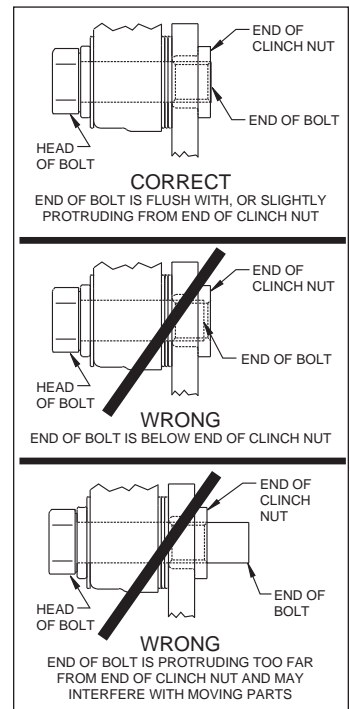

Figure 3. Clinch Nut Engagement Diagram
**Assembly Instructions** (numbers in parenthesis refer to the parts list and Figure 1 on the preceding pages): **CAUTION:** All mounting bolts must fully engage clinch nuts. Be sure to check that all bolts are either flush or protruding through flanged side of clinch nut after shimming, Figure 3.
- Pack the small outer bearing cone (17) with high temperature disc brake bearing grease and install into hub (10). Slide the hub/rotor assembly onto the spindle. Secure using spindle washer (18) and spindle nut, Photo 6. Adjust bearings per OEM specifications. Install saved OEM nut lock (if any) and a new cotter pin (not supplied).
- Screw dust cap (20) into hub (10), Photo 7. Friction created by the o-ring (19) on the dust cap keeps it from unscrewing. **NOTE:** The O.D. of the existing OEM spindle washer may be larger than the I.D. of the dust cap not allowing it to seat against the hub face. Therefore, use the spindle washer (18) supplied with the kit instead of the OEM washer.
- NOTE:** Please reference the caution statement at the beginning of the assembly instructions. This kit contains distinct right and left hand calipers that must be mounted in a specific direction, as described below. Mount the caliper (21) onto the caliper mounting bracket (1) using bolts (24) and washers (23), as shown in Figure 1. Initially place two .035" thick shims (22) on each bolt between the caliper and the bracket, Photo 8. Ensure that the caliper is mounted so the largest pistons are at the rotor exit end of the caliper, in relation to the direction of rotor rotation. Temporarily tighten the mounting bolts and view the rotor (14) through the top opening of the caliper. The rotor should be centered in the caliper, Photo 9. If not, adjust by adding or subtracting shims between the bracket and the caliper. Always use the same amount of shims on each of the two mounting bolts. **NOTE:** The end of each bolt must be flush with or slightly protruding from the head of the clinch nut, as shown in Figure 3. If necessary place spare shims between washer (23) and caliper mounting ear to achieve the proper clinch nut engagement. Once the caliper alignment and clinch nut engagement are correct, remove the bolts one at a time, apply red *Loctite*® 271 to bolt threads, and torque to 40 ft-lb.